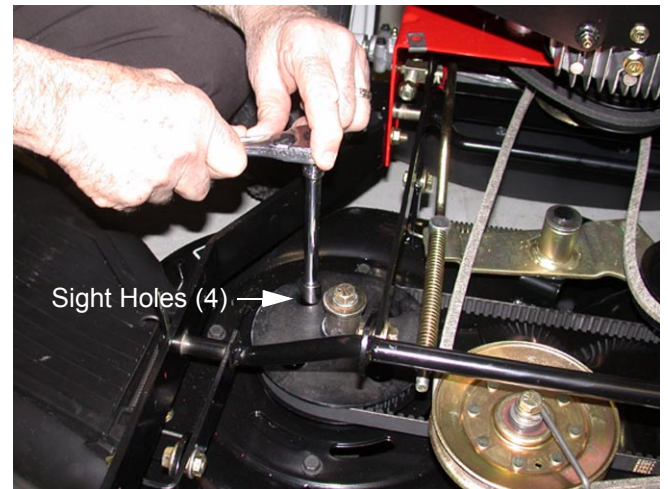

Figure 37
- 12.3. Align the sight holes in the right pulley with the spindle housing deck mounting bolts. See Figure 37.
- 12.4. Using a 1/2 inch deep socket loosen the four mounting bolts securing the right spindle housing to the deck. See Figure 37.